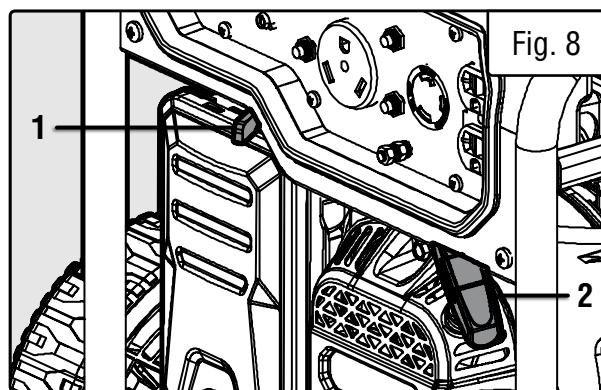

Fig. 8
2. Turn the choke lever (Fig. 8 - 1) to the CLOSED position.
4. Place one hand on the generator to hold it in place, and pull on the recoil starter handle (Fig. 8 - 2) slowly until a slight resistance is felt. Then pull quickly to start the engine. Return cord gently into the machine. Never allow the cord to snap back.